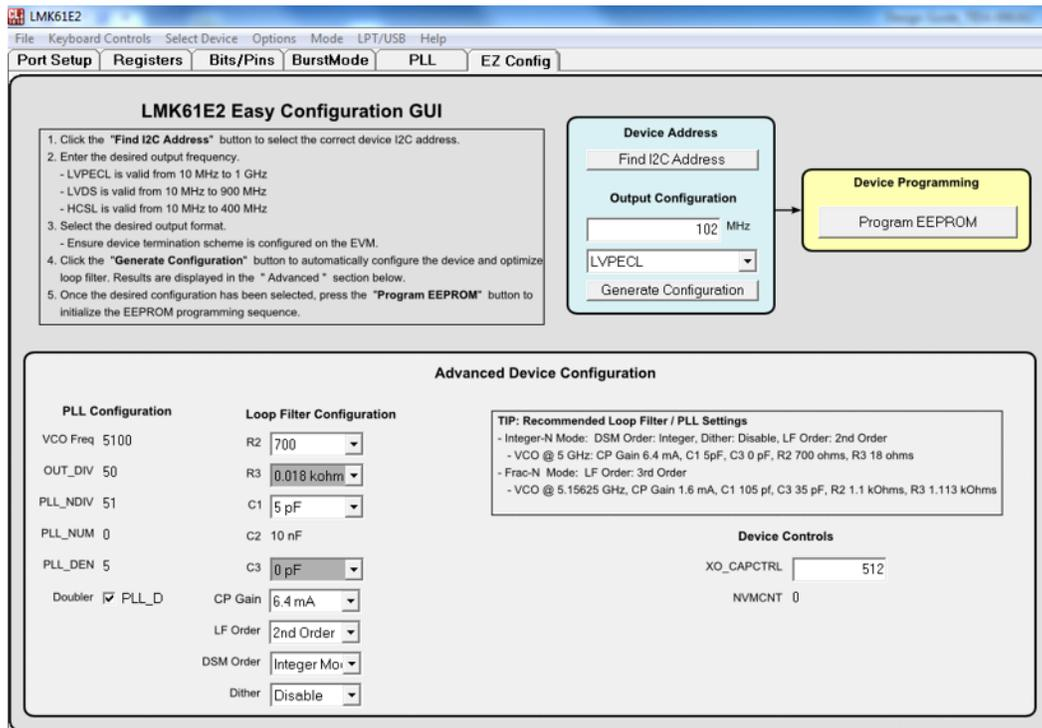

Figure 7. LMK61E2 Programming Using CodeLoader 4 GUI
- Follow the steps given in Figure 7 to program LMK61E2 registers. The LMK61E2 has a programmable internal loop filter. See Table 5 of the LMK61E2 EVM guide (SNAU188) to set the filter values for optimum output. See the CodeLoader 4 user's guide (SNAU083) for details on device programming using CodeLoader 4.